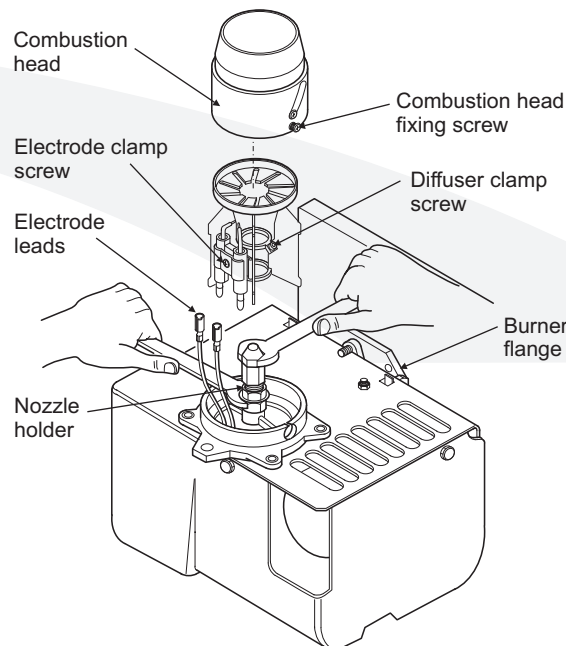

Figure 11-7: 46/58, 58/70 burner
1. Combustion head: Loosen the two screws securing the combustion head (**not** the screws in the slotted ring, Figure 11-7) and withdraw the head.